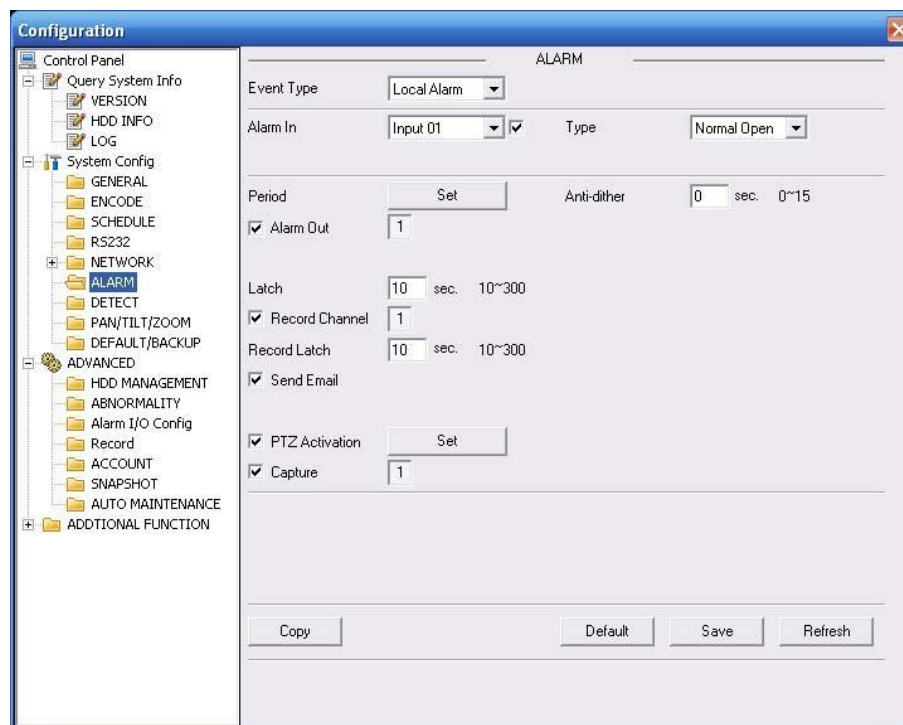

Figure 2-5
The alarm setup interface is shown as below. See Figure 2-5.
- Open the Web, go to the Figure 2-5. Here you can set the alarm input setup and alarm output setup. Please set the alarm in for the alarm input in the rear panel. Then you can select the corresponding type (NO/NC) according to the high/low level type when an alarm occurs.